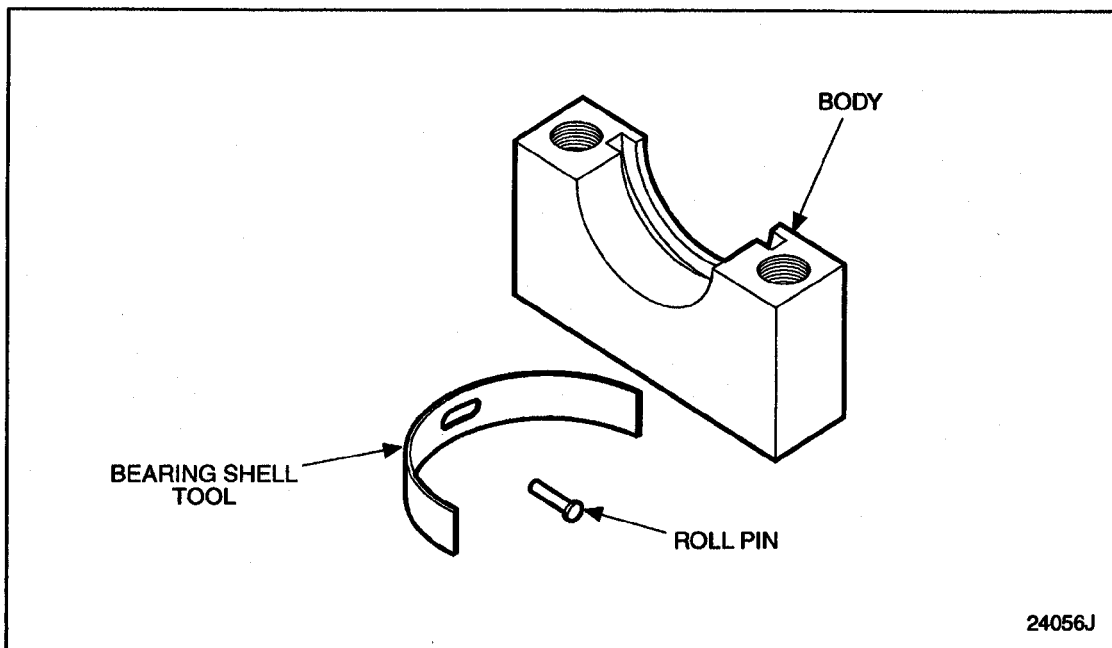

Figure 1-144 Main Bearing Shell Remover and Installer Tool Set
4. To remove the upper main bearing shells without crankshaft removal, it will be necessary to use the main bearing shell remover and installer tool set, J 36187 . See Figure 1-144.